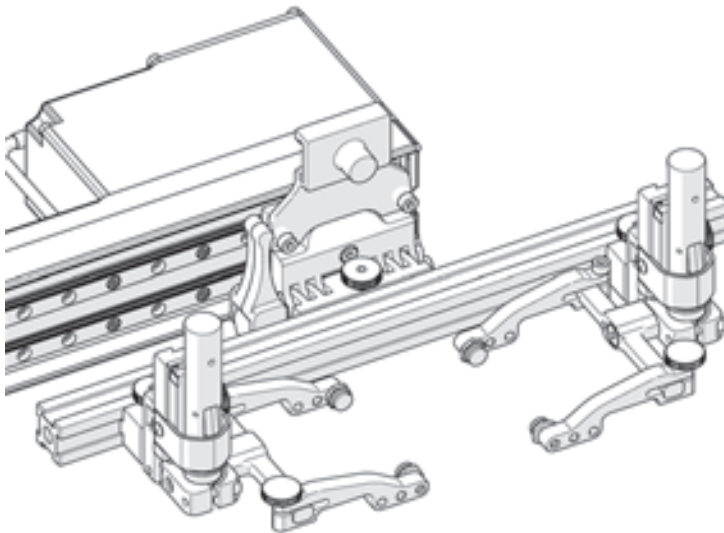

Figure 4-107 Mount dual probe holders
6. Follow the steps in “Probe Holder Setup” on page 134 to mount and set up the vertical probe holders (see Figure 4-107 on page 170).